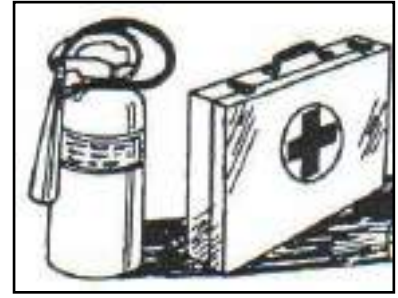

Fig. 8
- You must be prepared for a sudden fire, which is why you must ensure that a first aid kit and a fire extinguisher is always available during work (Figure 8).